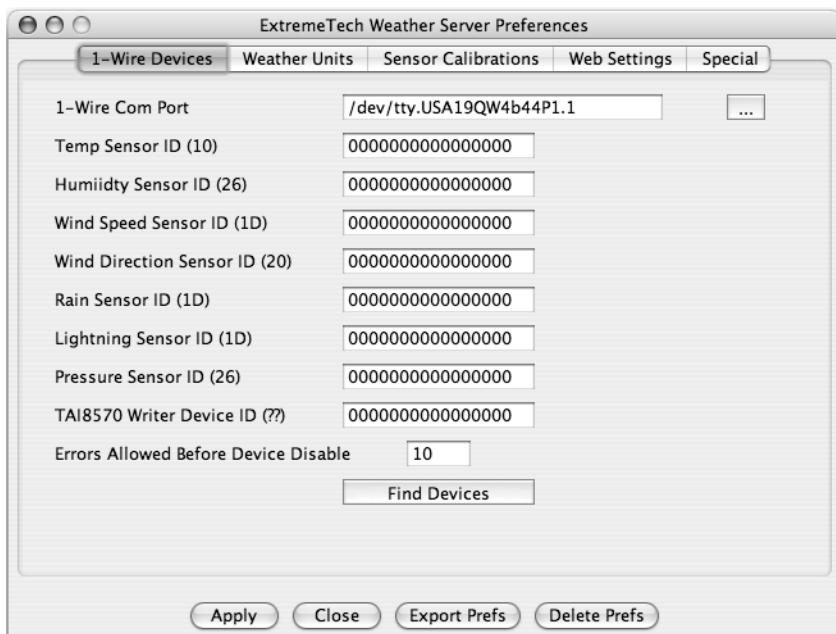

FIGURE B-1: ETWS preferences main tab.
13. ETWS will build a default set of preferences and will display the preferences dialog box with the 1-Wire Device tab as shown in Figure B-1.